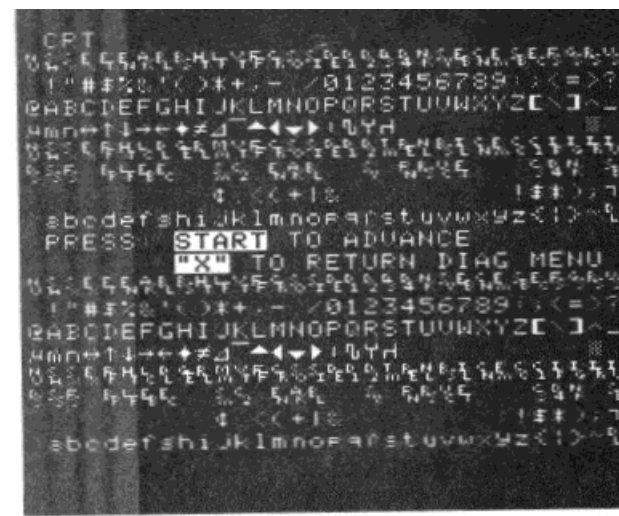

Figure 5-8. 318 CRT test serial acquisition character fonts.
- All character fonts for Serial Analyzer mode (Figure 5-8). Used to check the CRT circuit and the CROM for serial analyzer operations.